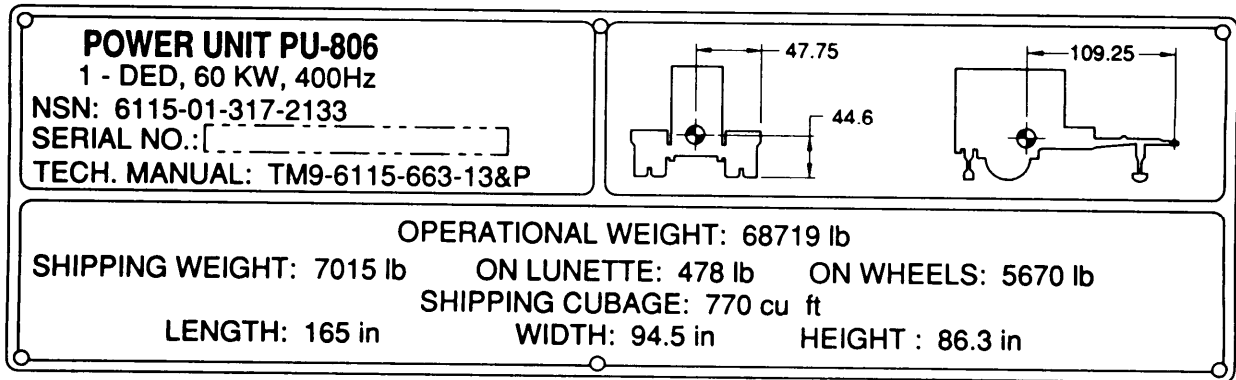

Figure 2-11. PU-806 Identification/Transportation Data Plates.
**2-6.2 PU-806 Identification/Transportation Data Plate.** Refer to figure 2-11. This plate is located on the trailer body.